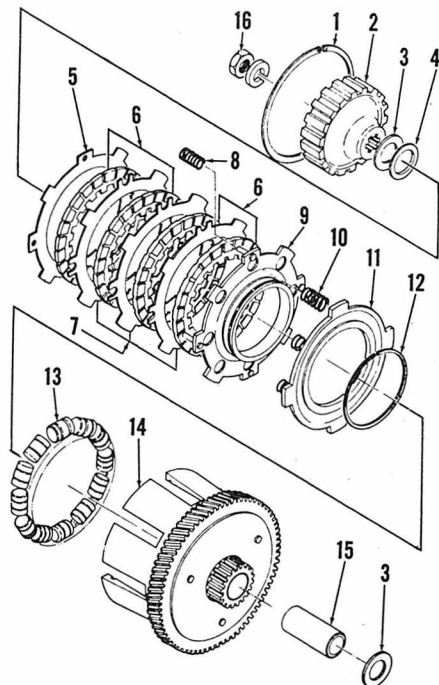

Fig. Y1-21—Exploded view of the automatic clutch used on MF-3 and U-5 models.
to remove carburetor cover, carburetor and the engine right side cover. Remove snap ring (1—Fig. Y1-21) and withdraw friction discs (6), plates (5 & 7) and release springs (8). Clutch hub (2) and drum can be removed after removing nut (16).